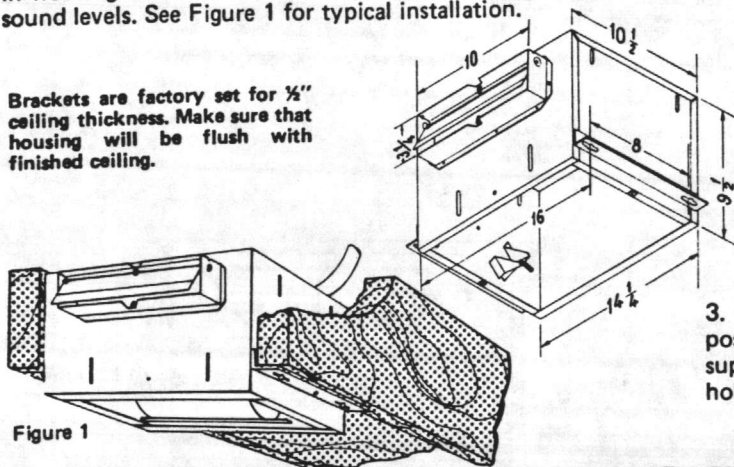

Figure 1
1. Provide Frame - This unit is designed to fit within joists on 16" centers. If ceiling joists are on larger centers, frame in housing location. Provide a solid frame to assure lowest sound levels. See Figure 1 for typical installation.